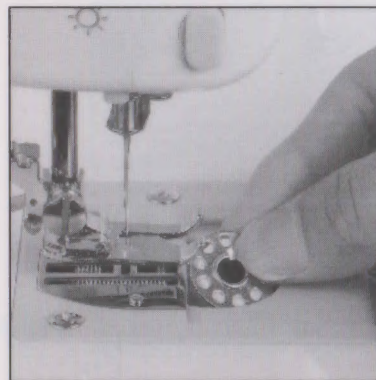

Fig.4
3. Put the new bobbin in the holder, with the thread going clockwise. Leave 10 cm of thread hanging out (Fig. 4)